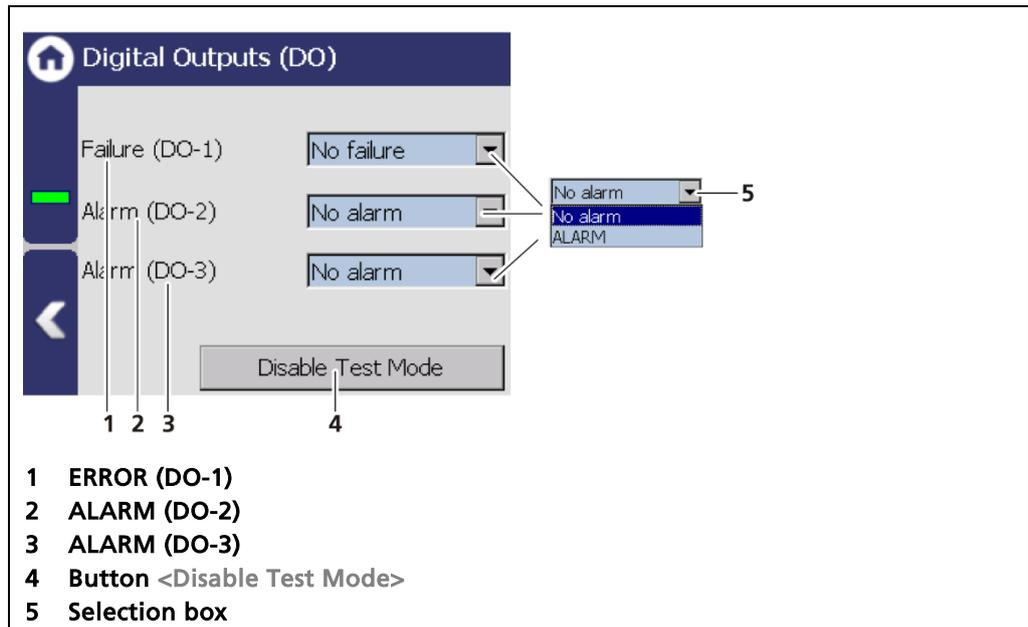

Fig. 106 Simulation Digital Output
1. Click on the selection field (Fig. 106, item 5) and select "No Alarm" or "ALARM" for the simulation.
2. Click on the <Disable Test Mode> button (Fig. 106, item 4) to stop the simulation.